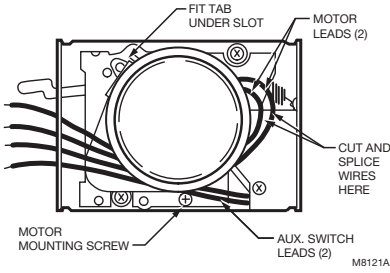

Fig. 2. Replace powerhead motor.
2. Remove old motor from powerhead (Fig. 2):
- Fit tab on motor under slot on powerhead (Fig. 2).